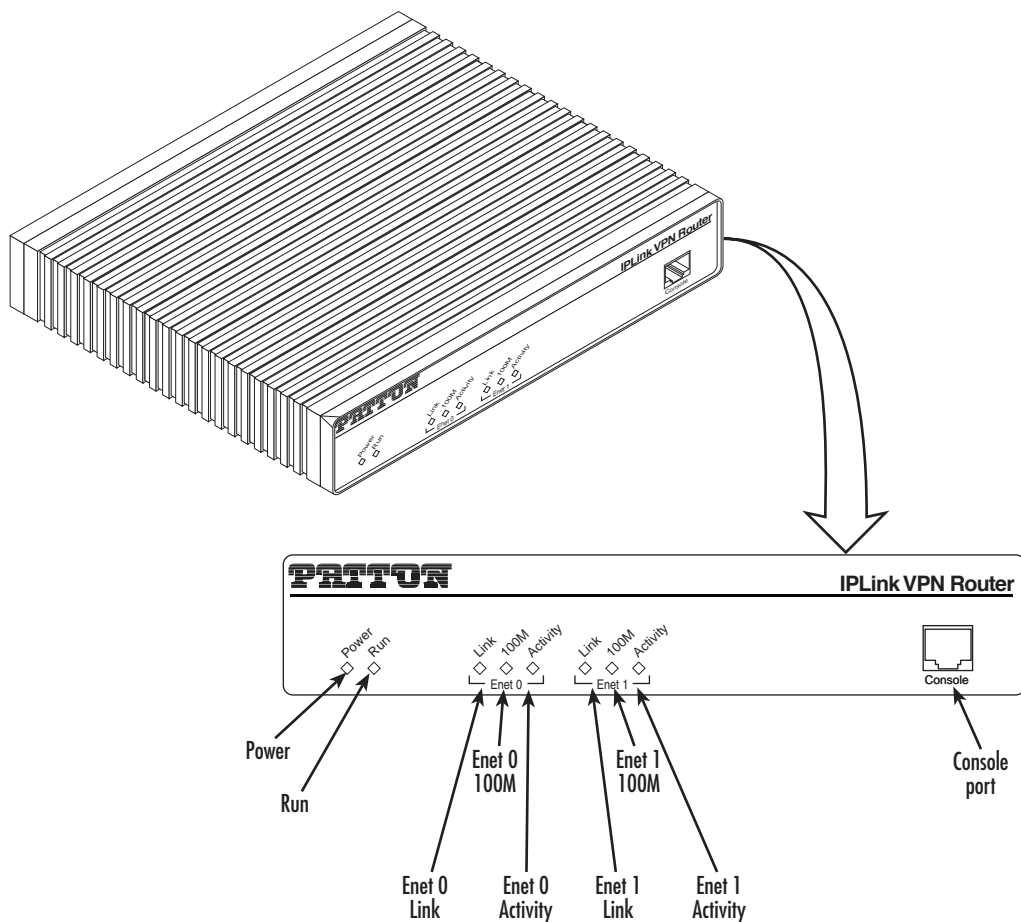

Figure 9. VPN Router front panel LEDs and Console port locations
5. Verify that the green *Power* LED is lit (see figure 9).